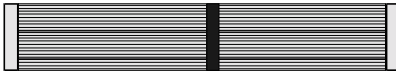

Figure 1-1 UDMA66 IDE cable
- One 40-pin Ultra DMA-66 IDE connector ribbon cable (Figure 1-1)